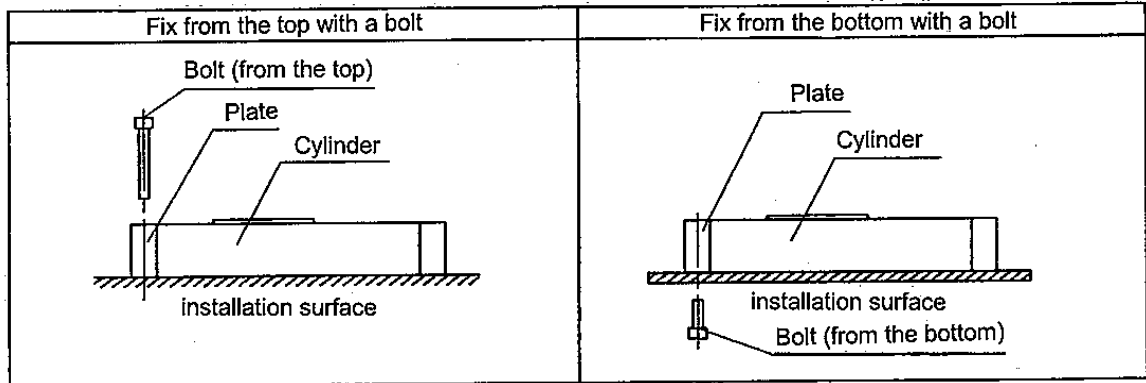

Figure 2. Bolt mounting
3. Two optional ways of mounting are available when mounting the cylinder with bolts. Select the one which is applicable to the equipment specifications. (See figure 2)